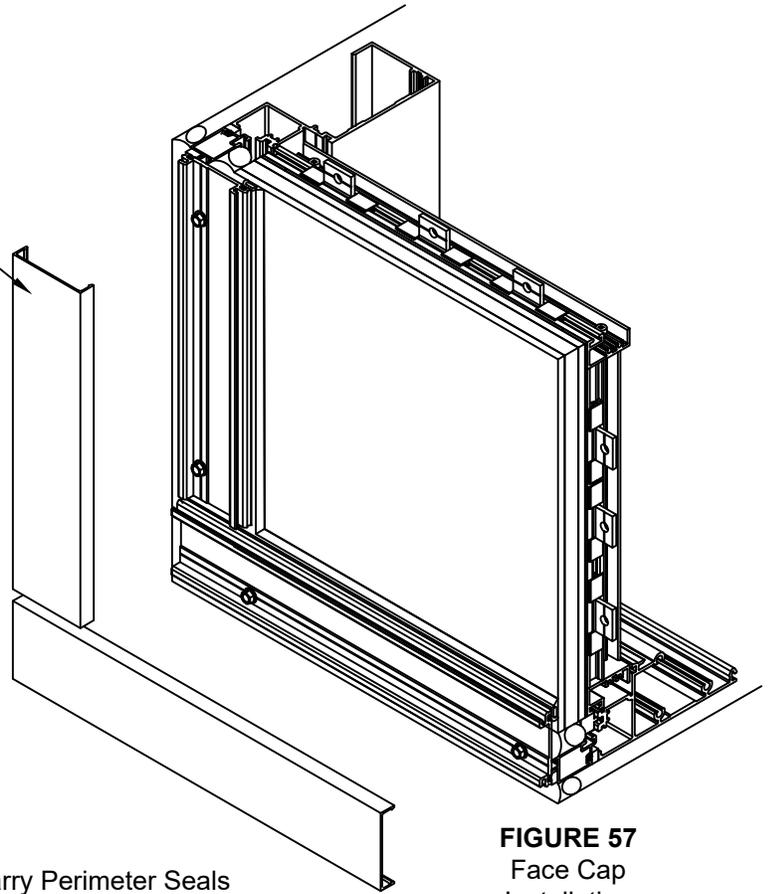

FIGURE 57
- 4.15 Snap WW-110 face cap over pressure plate. SEE FIGURE 57